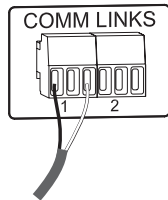

FIG. 3 Insert wires into the comm connector
3. Insert XNet link cable wires according to FIG. 3 (either wire goes into either outside slot).